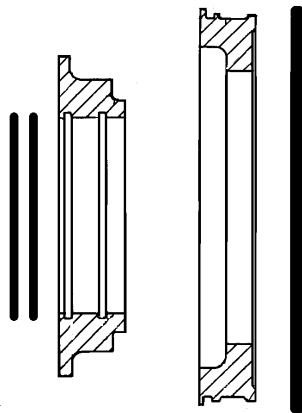

**Figure 47 - Remove Setscrews**
1. Using an 1/8" hex wrench, loosen the setscrews (Figure 47, item A).
2. Remove the impeller end of the bearing housing (Figure 47, item B).
3. Remove the outer seal ring assemblies (the inner seal ring and O-rings). See Figure 47 and Figure 48.
**NOTE:** Figure 47 shows the seal position at the motor end. Seals at the pump end face inward. Make sure to tighten the setscrews when installing the outer seal assemblies (Figure 49).